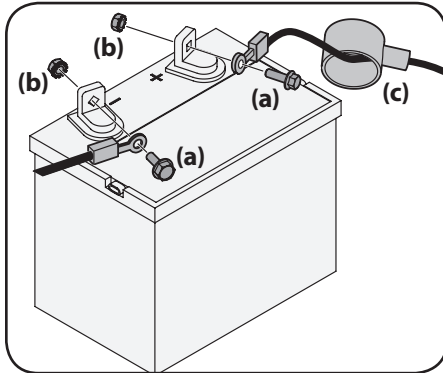

Figure 2-12
1. Remove the plastic cover, if present, from the positive battery terminal and attach the red cable to the positive battery terminal (+) with the bolt (a) and hex nut (b). See Figure 2-12.
2. Remove the plastic cover, if present, from the negative battery terminal and attach the black cable to the negative battery terminal (-) with the bolt (a) and hex nut (b). See Figure 2-12.